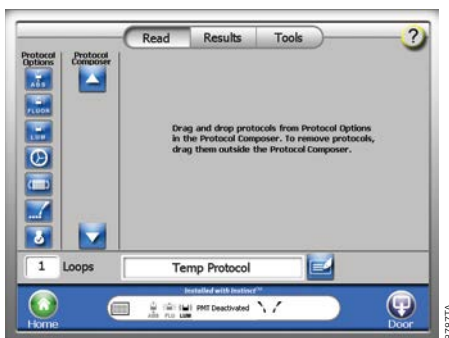

Figure 7. Defining a “New Protocol” screen.
1. Select and drag the desired “Protocol Option” over to the “Protocol Composer” (Figure 7). For example, touch the Fluorescence icon and drag it to the “Protocol Composer” column.